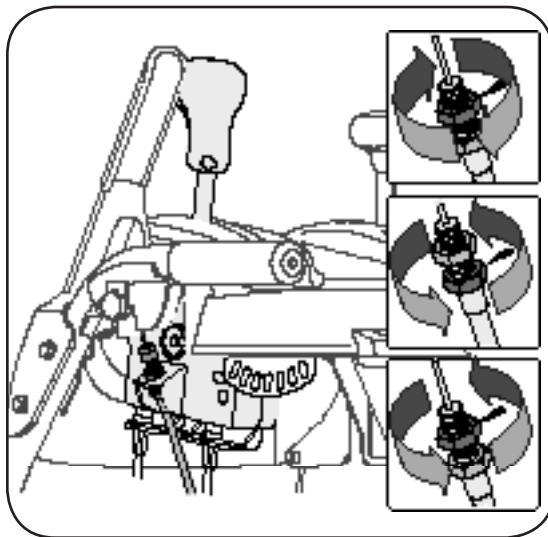

Figure 15
2. Adjust equally on both sides by working on both cables. See Figure 15.